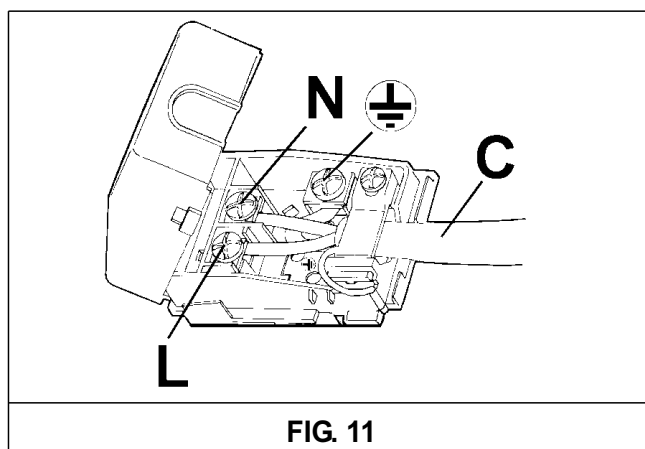

FIG. 11
- fit a standard plug "C" suited to the load indicated on the data label to the cable. Fit the wires following figure 11, taking care of respecting the following correspondences: